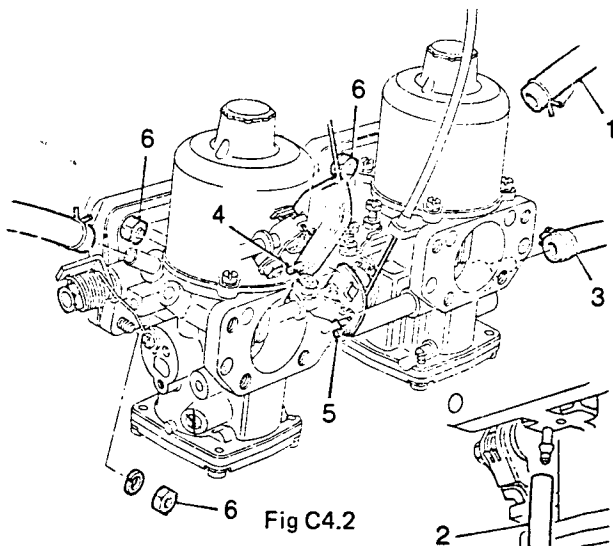

Fig C4.2
- (3) Refer to Fig C4.2. Disconnect the engine purge hoses (1) from the carburetters.
- (4) Disconnect the ignition vacuum advance pipe (2) from the rear carburetter.
- (5) Disconnect the fuel feed pipe (3) to the rear carburetter.
- (6) Release the throttle and choke cable fixings (4) and (5) and disconnect the cables.
- (7) Remove the eight nuts and spring washers (6) to release the carburetters.
- (8) Remove the carburetters, keeping them together so as not to disturb the inter-connecting linkages.
2. Replace the carburetters as follows: (Fig C4.2 still applies).